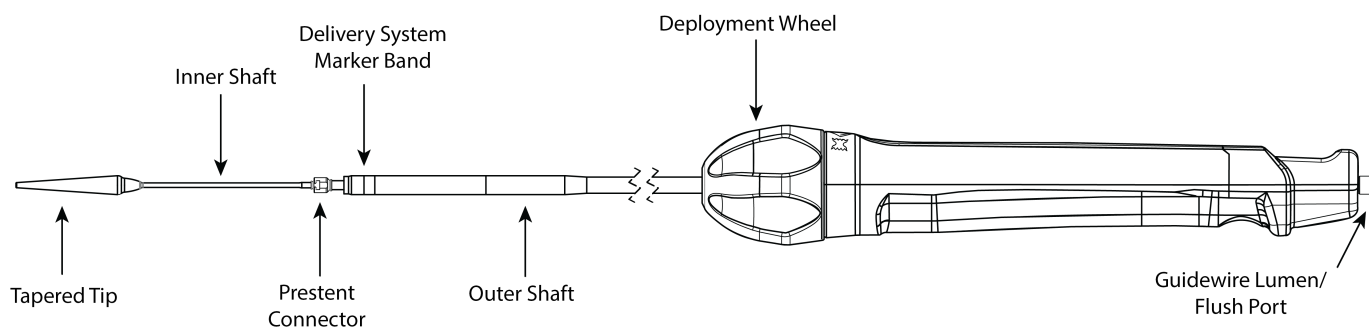

Figure 2: Edwards Alterra Delivery System
• Edwards Alterra Delivery System (Figure 2)